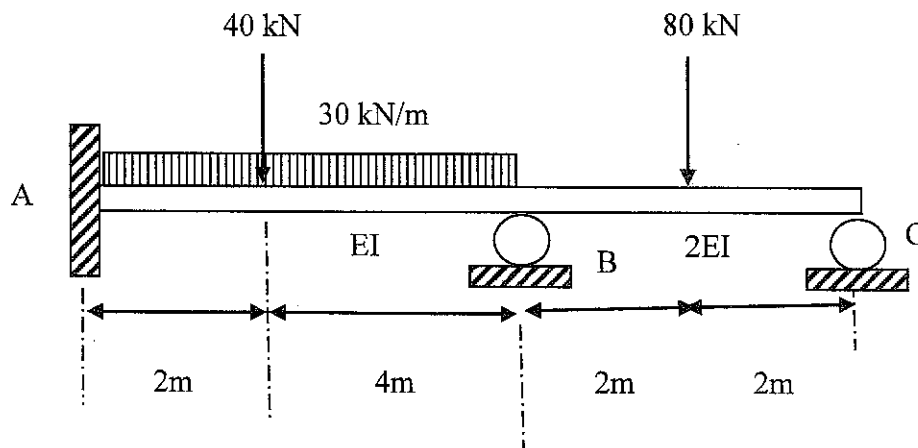

Figure B3 / Rajah B3
A continuous beam is fixed at A, while supported by roller at B and C that carries a uniformly distribution load and point load as shown in **Figure B3**. Use the moment distribution method.
- (c) Build a moment distribution table based on **Figure B3**.